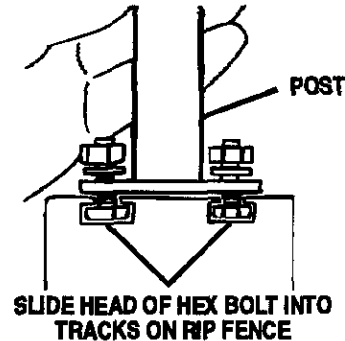

Fig. 6
- Feed bolts through holes in post. Place a 1/4 in. flat washer and lock washer on each bolt and secure with 1/4 in. hex nuts using an adjustable wrench. See Figure 6.